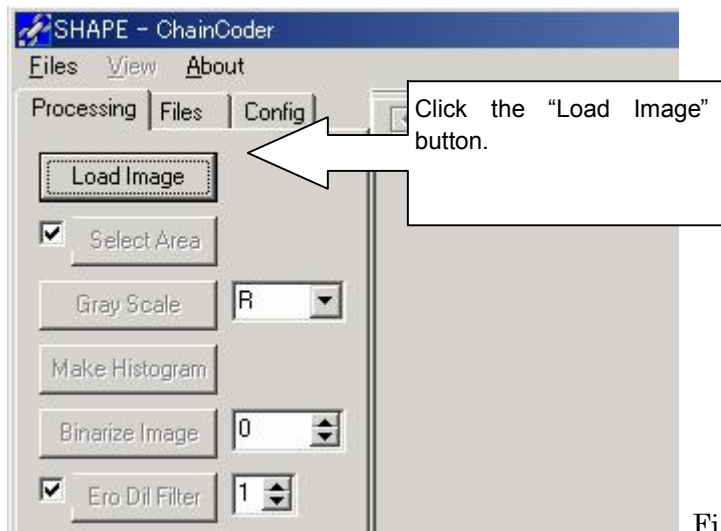

Fig. 6
5. Click the “Load Image” button to load the image into the program (Fig. 6).